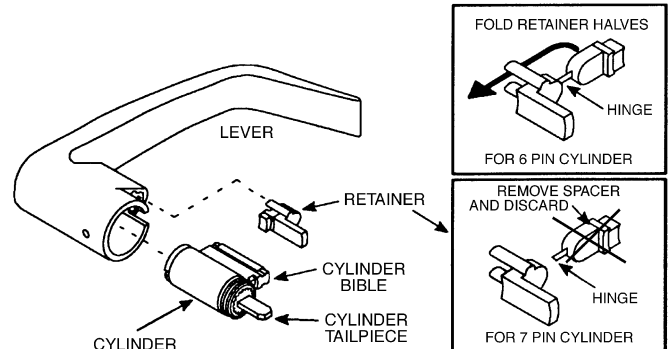

**Figure 4**
- Insert key marked CONTROL and turn clockwise approximately 15 degrees. See Figure 4.